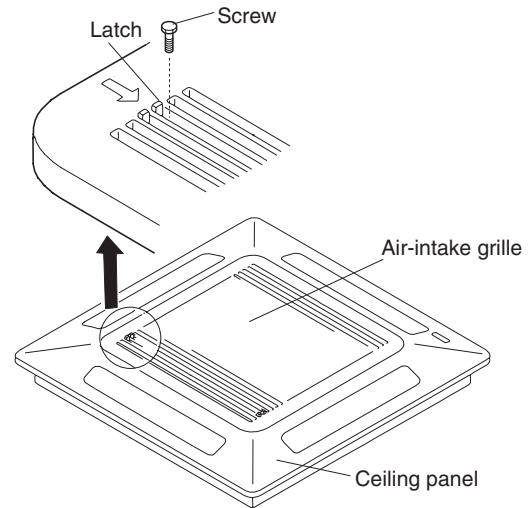

Fig. 1-58
- (1) Remove the air-intake grille and air filter from the ceiling panel. (Figs. 1-58 and 1-59)
- (a) Remove the 2 screws on the latch of the air-intake grille. (Fig. 1-58)
- (b) Press on the 2 latches of the air-intake grille with your thumbs in the direction of the arrow to open the grille. (Fig. 1-58)